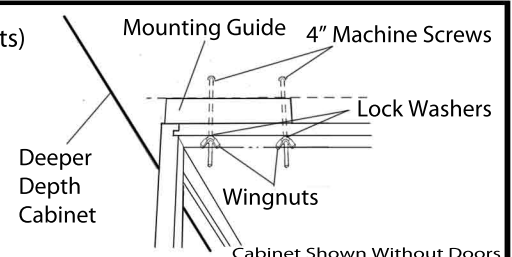

FIG. 1
Frameless/ Overlay Cabinets - hold the top edge of the mounting guide on the marked line and align the front of the mounting guide with the front of the cabinet frame. (FIG. 1)
2. The guide pads are mounted on the exterior, side surface of the cabinet. The bottom of the guide pads mount at $4\frac{3}{4}''$ (120mm)* above the finished floor. See (FIG. 1)